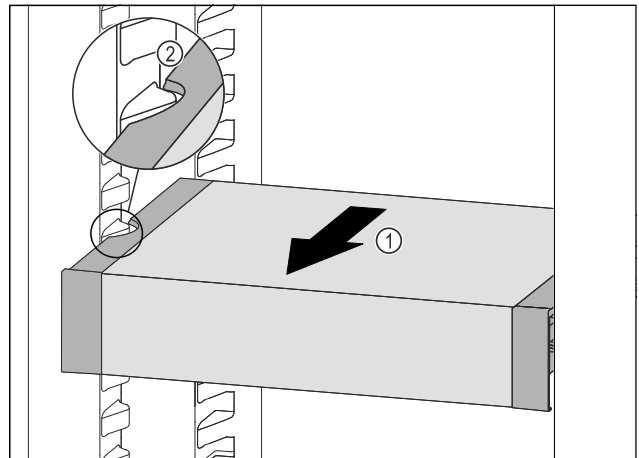

Fig. 122
- ▶ Pull VarioSafe forward Fig. 122 (1) until the recesses in the side of the VarioSafe are at the level of the support rib in the refrigerator compartment. Fig. 122 (2)